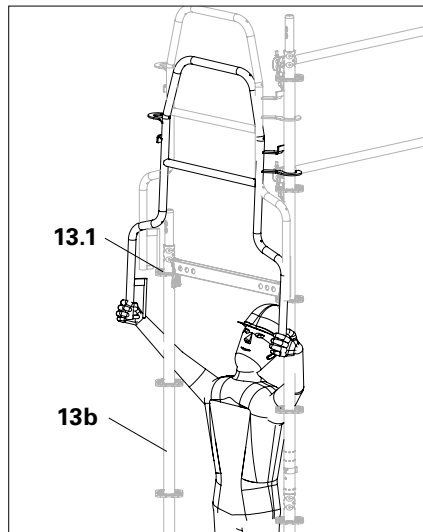

Fig. A5.13c
5. Raise the end guardrail in advance until the pegs (36.1) can be inserted into the rosettes (13.1) from above. (Fig. A5.13c)